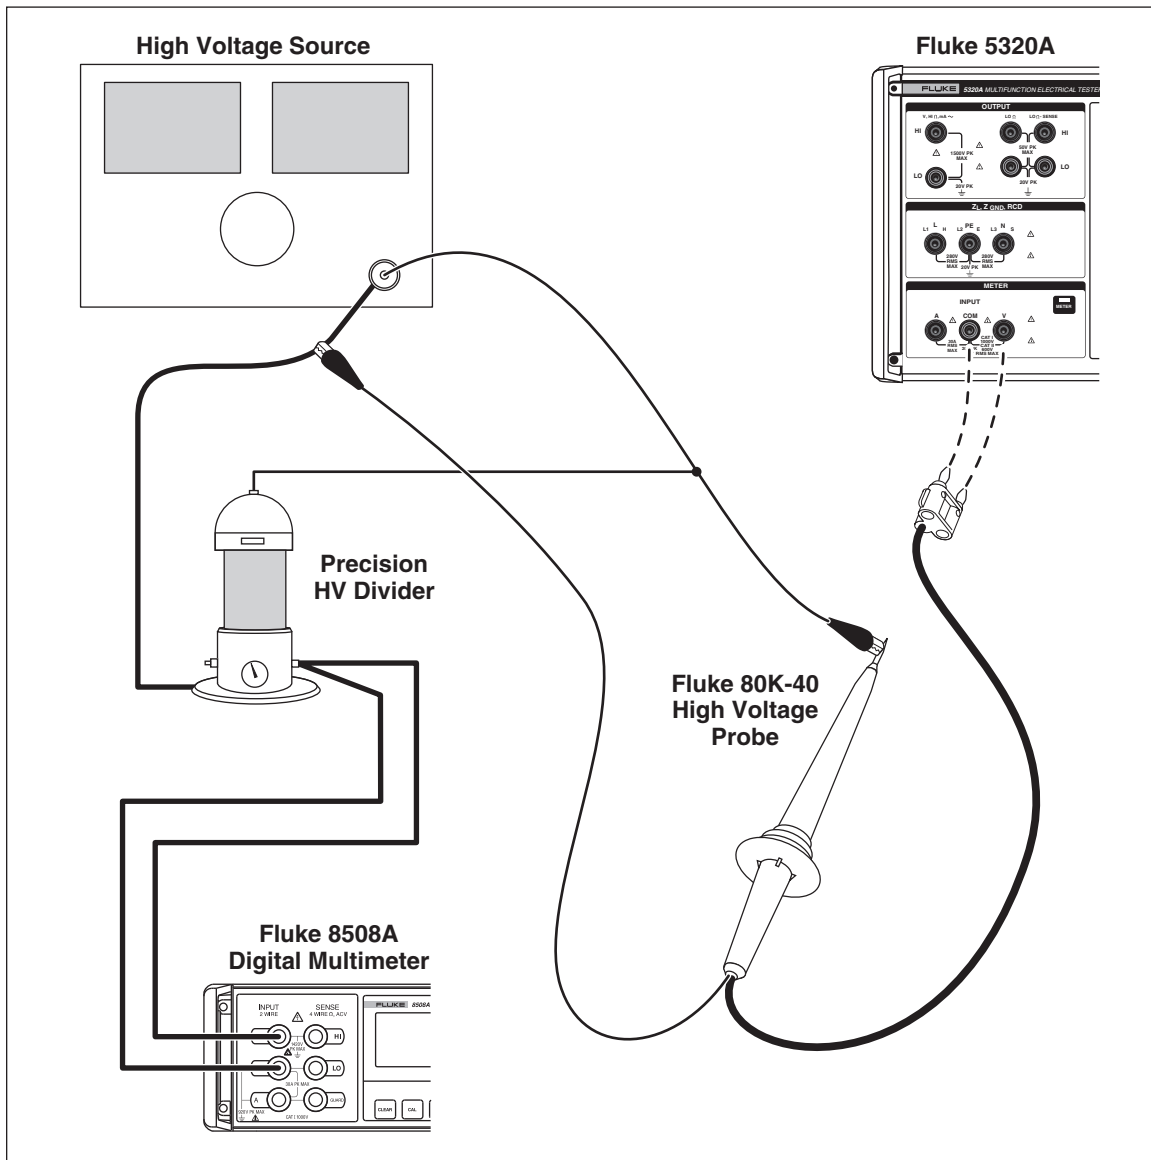

Figure 3-35. High Voltage Divider Calibration Connection
7. Connect the HV source to the high voltage divider as shown in Figure 3-35.